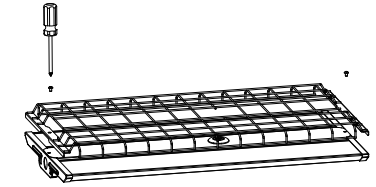

Figure 8
- Step2. Place the wire guard on the lamp and fix it with screws. (Figure 8)